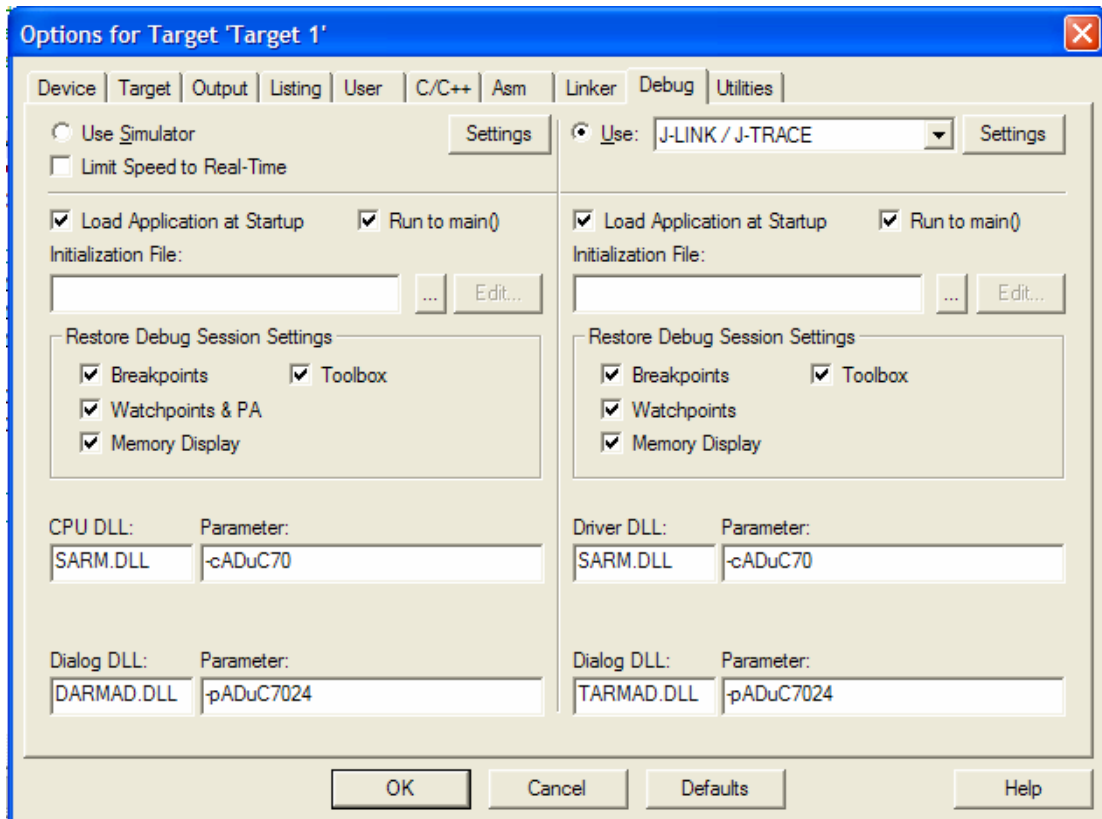

Figure 8
(4) Select the J-LINK case in the debug window as figure 8 shows.